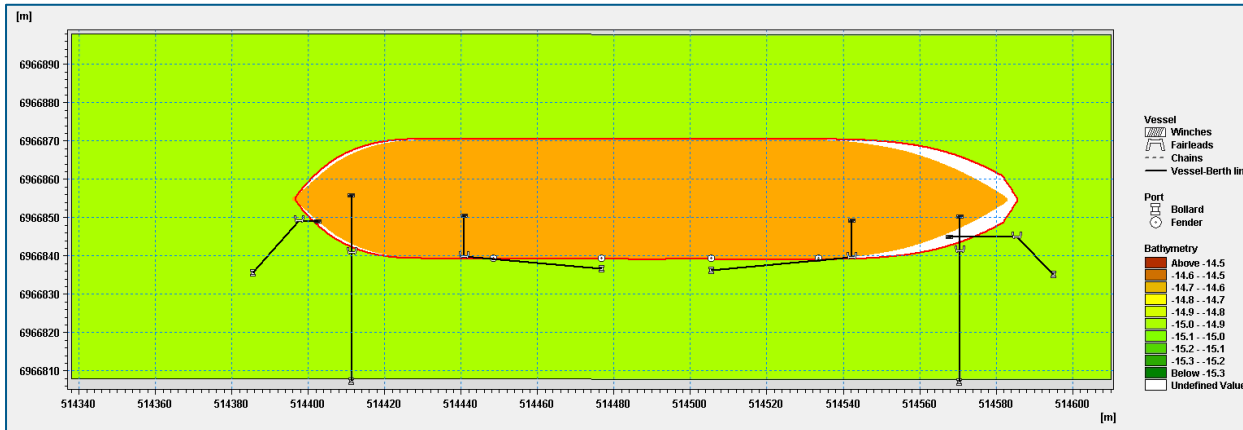

Figure 3.19 Moored vessel in port domain with mooring system connected
9. The image shown in Figure 3.19 should show up on your screen showing the berth pocket depth (constant 15m), vessel and shore based connection points and the vessel position.